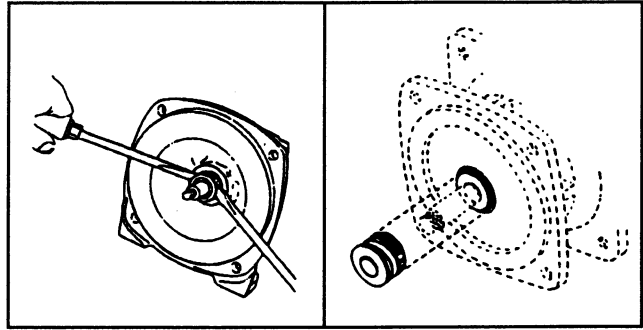

FIG. 7
1. Lightly lubricate shaft for easier removal of seal. Using two screwdrivers positioned opposite each other, pry the rotary portion of the seal from the shaft. See FIG. 7.
4. To install the rotary portion of the mechanical seal, place it over the shaft with the carbon side facing in, and press until it bottoms out against the stationary portion. See FIG. 7.